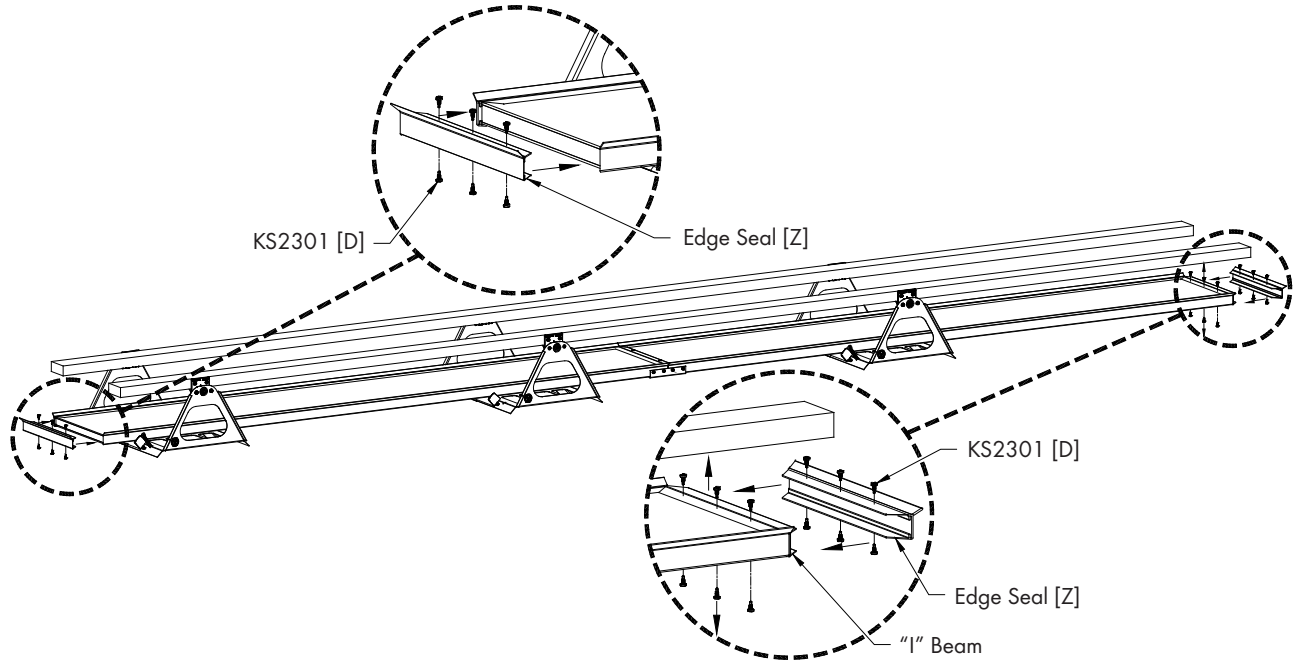

Figure 12
On end of the Baffle closest to where the actuator will be installed, slide Edge Seal [Z] over end of Baffle and secure with (6) KS2301 TEK Screws [D]. On the opposite end of Baffle remove the "1" Beam and install the Edge Seal and secure with (6) KS2301 TEK Screws [D]. See Figure 12.